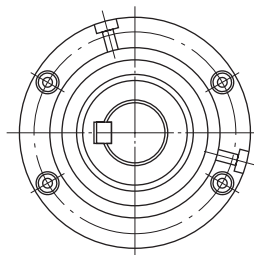

Figure 3/ Figura 3
- c) For backstops and freewheels designs 221 and 222, after positioning one of the screws (12) in the vertical position, the lubrication is done similarly to the procedures described in item b (see figure3).